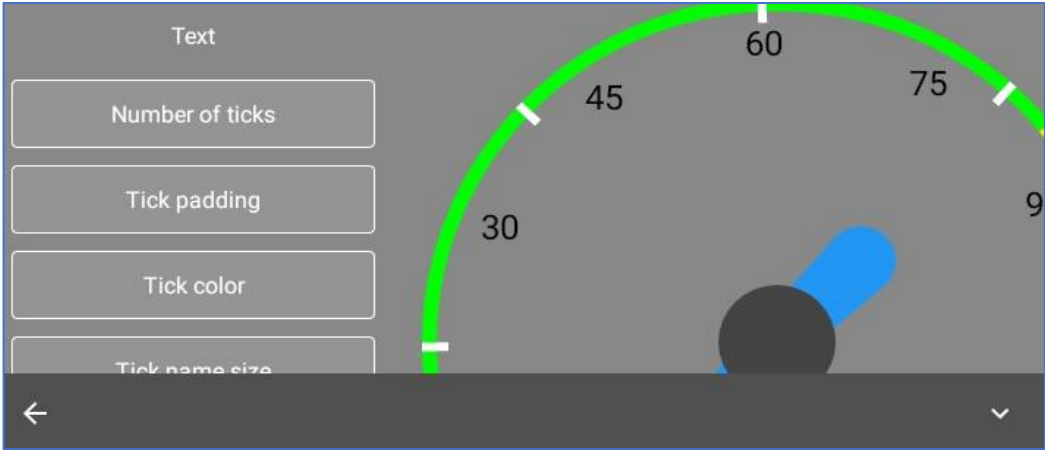

fig.4.13. Group of settings “Text”
- **Group of settings “Text”** contains the information related to the ticks and value captions on the scale(fig.4.13).